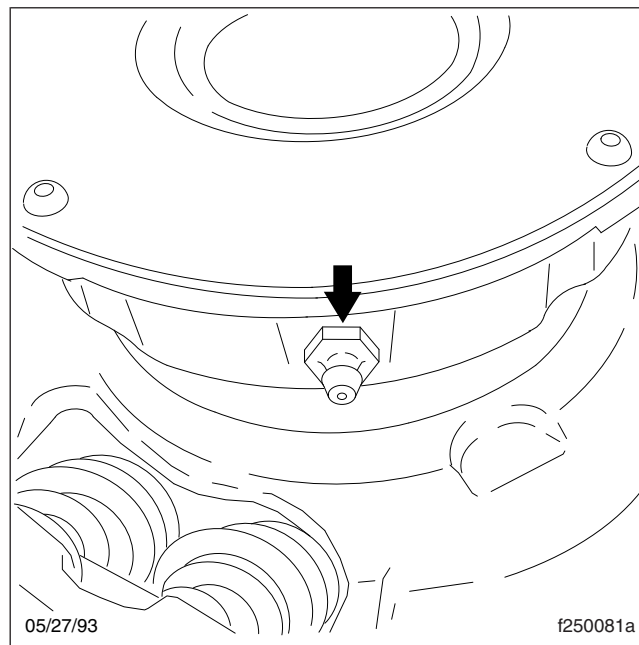

Fig. 2, Release Bearing Grease Fitting
3. Wipe any dirt away from the grease fitting. See Fig. 2. Using a pressure-type grease gun equipped with the recommended grease, lubricate the bearing until excess grease purges from the rear of the release bearing (toward the transmission).
3. Wipe any dirt from the grease fitting. See **Fig. 2**. Using a pressure-type grease gun equipped with recommended grease, lubricate the bearing until excess grease purges from the rear of the release bearing (toward the transmission).